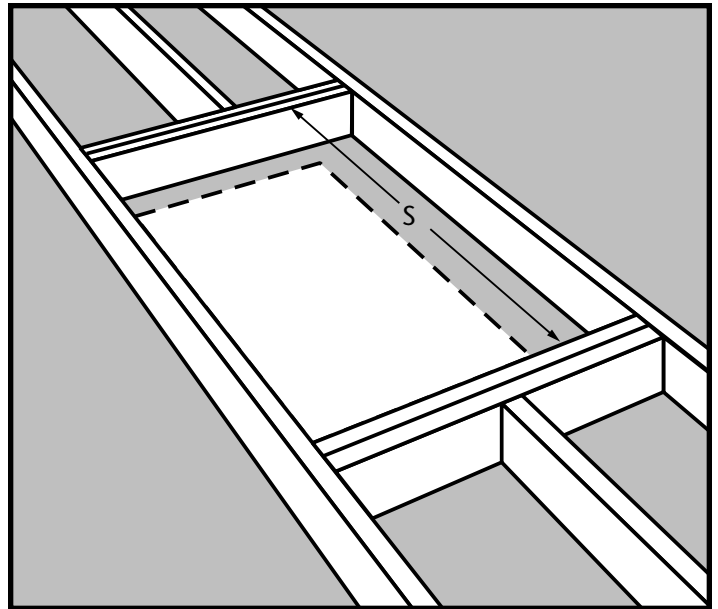

Figure 18
- STEP 1.** Measure the stringer length “S” between the headers (Figure 18).
- STEP 3.** If the ceiling joist does not provide one side of the frame, then cut a second stringer the same length as the first one. Note that only one stringer is needed in Figure 18 because the ceiling joist provides one side of the frame.